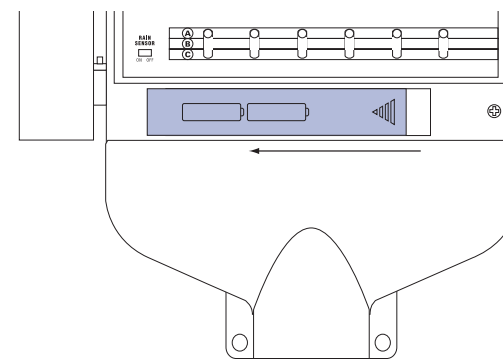

Figure 24: Battery Compartment
- Remove the battery cover by sliding it to the left. [See Figure 24]